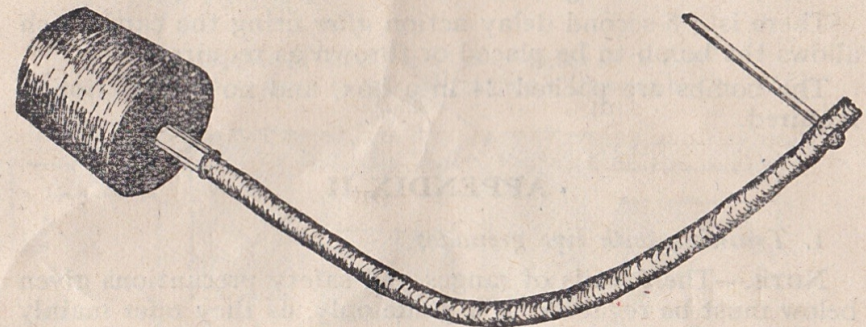

FIG. 20
- ii. Next cut off the required amount of fuze for the set. 13 ins. (1 in. allowed for lighting) will give about 30 seconds in which to get to cover. See that the end to be inserted in the detonator is cut clean and square. About 1 in. from the other end bore a hole through the fuze with the point of a sharp knife. Into this hole draw a match until the head of the match is nearly flush with the fuse (see Fig. 20).